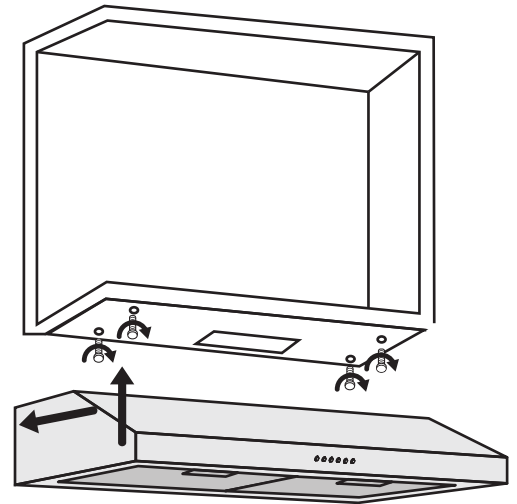

Figure 4
- Using measurements provided on Page 7, measure and drill 4 holes into bottom of cabinet (see Figure 4).
- Align range hood to the holes in the bottom of the cabinet and screw in (see Figure 4).